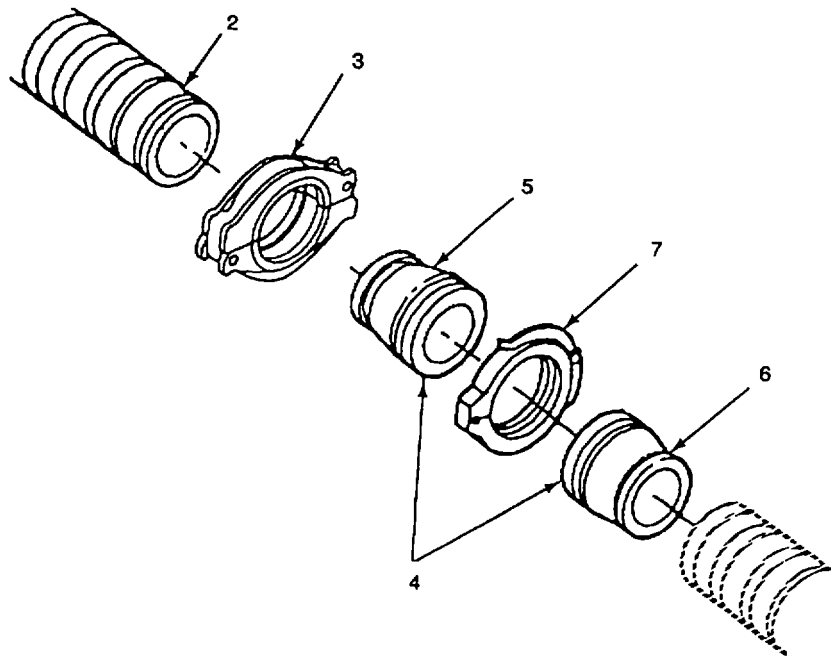
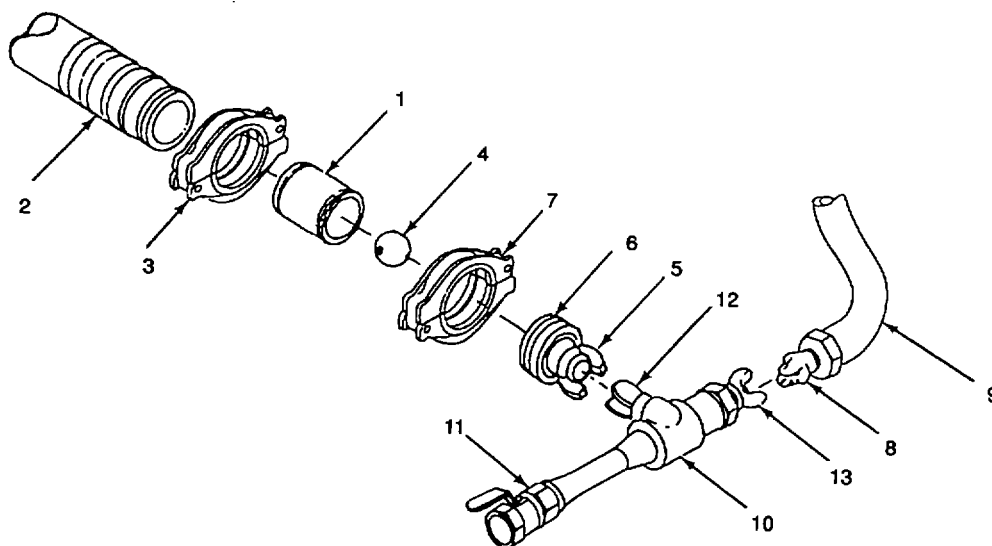
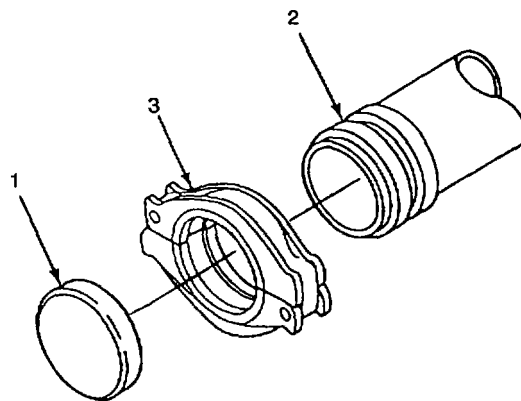

Figure 2-33. Ball Receiver
Figure 2-34. Displacement Ball
Figure 2-35. End Cap
- (1) Remove 6-inch boltless coupling (para. 2-8.c.) connecting end of hoseline segment to next downline hose segment (or swivel joint).
- (2) Separate two hoseline segments (or hoseline segment and swivel joint).
- (3) Locate ball receiver (4, Figure 2-33), consisting of two 8 X 6 inch reducers (5 and 6, Figure 2-33). One reducer has been modified to prevent displacement ball from being ejected from ball receiver.
- (4) Connect 6-inch end of unmodified reducer (5) to downline end of first hoseline segment (2) using grooved-end pipe boltless coupling (3) (para. 2-8.b.).
- (5) Locate 8-inch snaplock coupling (7). Open coupling.
- (6) Fit halves of snaplock coupling (7) over joined ends of reducers (5 and 6). Close coupling (7) over reducer (5 and 6) ends. Lock snaplock coupling (7).
- (7) Connect nipple (1, Figure 2-34) to upline end of first hoseline segment (2) using boltless coupling (3) (para. 2-8.b.).
- (16) Shut off compressor when displacement ball (4) reaches receiver (6, Figure 2-33).
- (17) Open snaplock coupling (7) connecting two reducers (5 and 6). Pull snaplock coupling (7) back and separate two hinged coupling halves of snaplock coupling (7). Set snaplock coupling (7), displacement ball (4, Figure 2-33), and modified reducer (6, Figure 2-34) aside.
- (18) Remove boltless coupling (3) (para. 2-8.c.) connecting unmodified reducer (5) to hoseline segment (2).
- (19) Locate end cap (1, Figure 2-35). Connect end cap (1) to end of hoseline segment (2) with boltless coupling (3) (para. 2-8.b.).
- (26) Connect end cap (1, Figure 2-35) to hoseline segment (2) using boltless coupling (3) (para. 2-8.b.).
(27) Repeat steps (1) through (25) (omitting steps (9) through (13)) for each hoseline segment down the line.
(28) When a hoseline length has been evacuated, collapsed, and capped, it is ready for packing in a tricone box.
(29) When a swivel joint is removed, return it and one 6-inch boltless coupling to lead pumping station installation site.